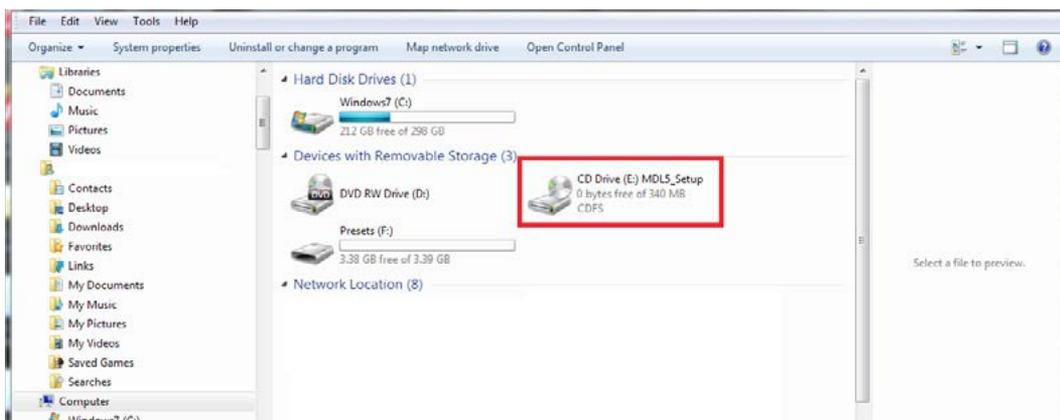

Figure 32: Pre-installer Warning Dialogue Box
1. Insert the Prover software installation media into the computer. The following screen will appear as shown in **Figure 32**.